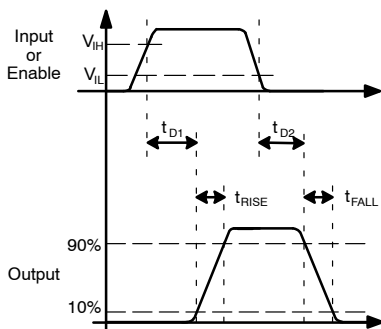
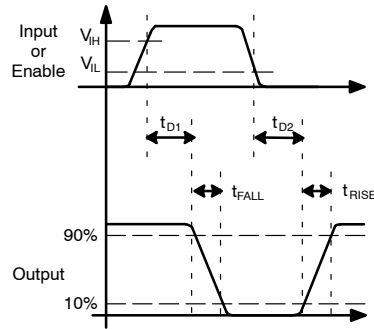

Figure 8. Non-Inverting
Figure 9. Inverting
10. See *Timing Diagrams of Figure 8 and Figure 9*.